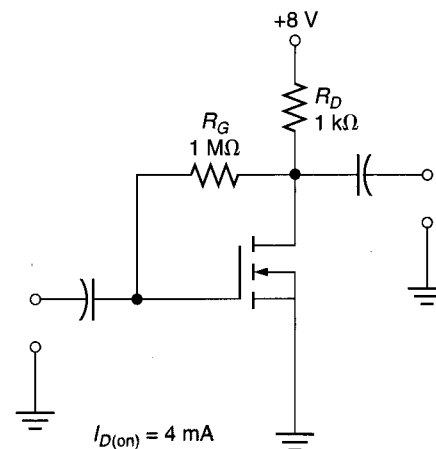

FIGURE 13.32
14. Calculate the values of  $I_D$  and  $V_{DS}$  for the amplifier in Figure 13.32.